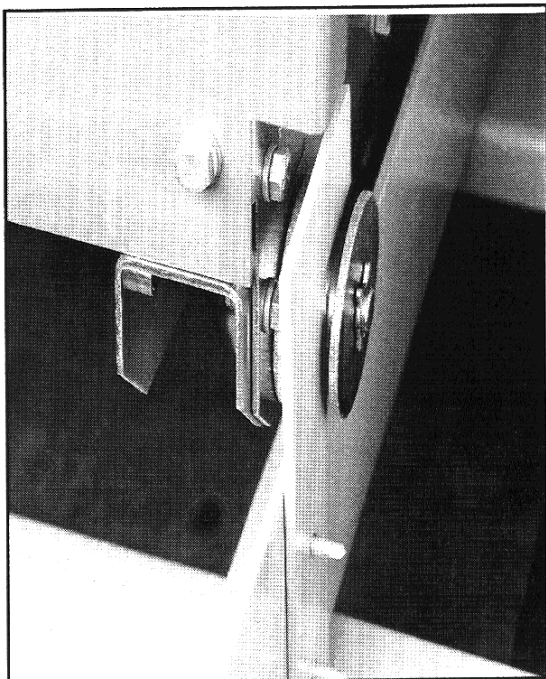

Fig. 31 WVB Stationary Mounting Bracket
3. Remove two (2) stationary mounting brackets located on lower left and right of VCP-W breaker. (See Fig. 31)